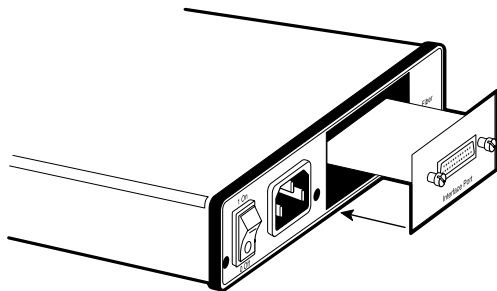

Figure 4-1. Installation of a WAN Bridge Module.
3. While keeping the Module's faceplate parallel with the base unit rear panel, slide the Module straight in—so that the card edge contacts line up with the socket inside the chassis. **Figure 4-1** shows how a Module plugs into the rear of the base unit.